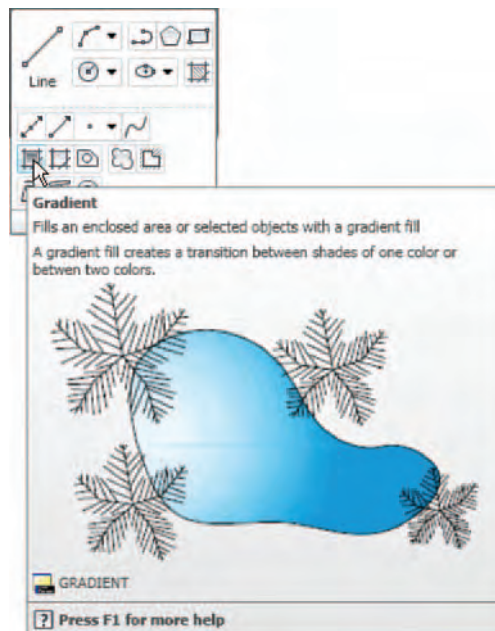
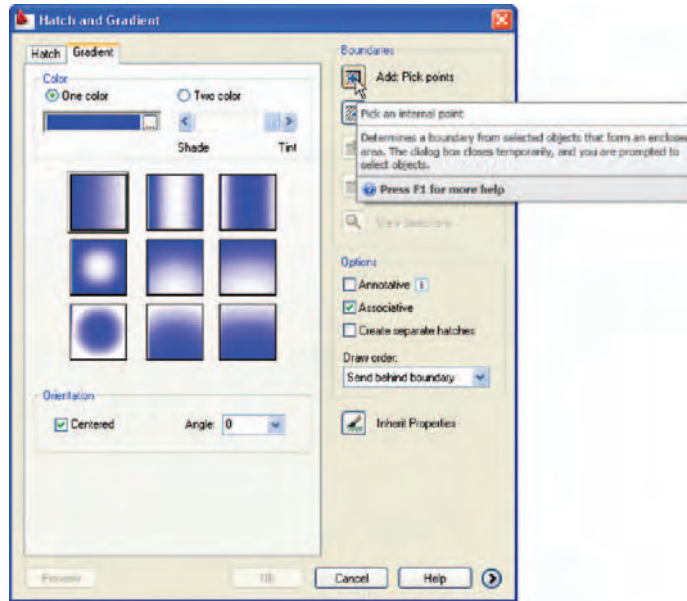

Fig. 8.7 The **Gradient...** tool icon from the **Home/Draw** panel
Fig. 8.8 The **Hatch and Gradient** dialog
Fig. 8.8 shows two examples of hatching from the **Gradient** sub-dialog of the **Hatch and Gradient** dialog.
2. Click the **Gradient** icon in the **Home/Draw** panel (Fig. 8.7) or in the **Draw** toolbar. In the **Hatch and Gradient** dialog which appears (Fig. 8.8) *pick* one of the gradient choices, followed with a *click* on the **Pick an internal point** button. *Click* one of the color panels in the dialog and when the dialog disappears, *pick* a single area of one of the rectangles in the left-hand drawings, followed by a *click* on the dialog's **OK** button when the dialog reappears.